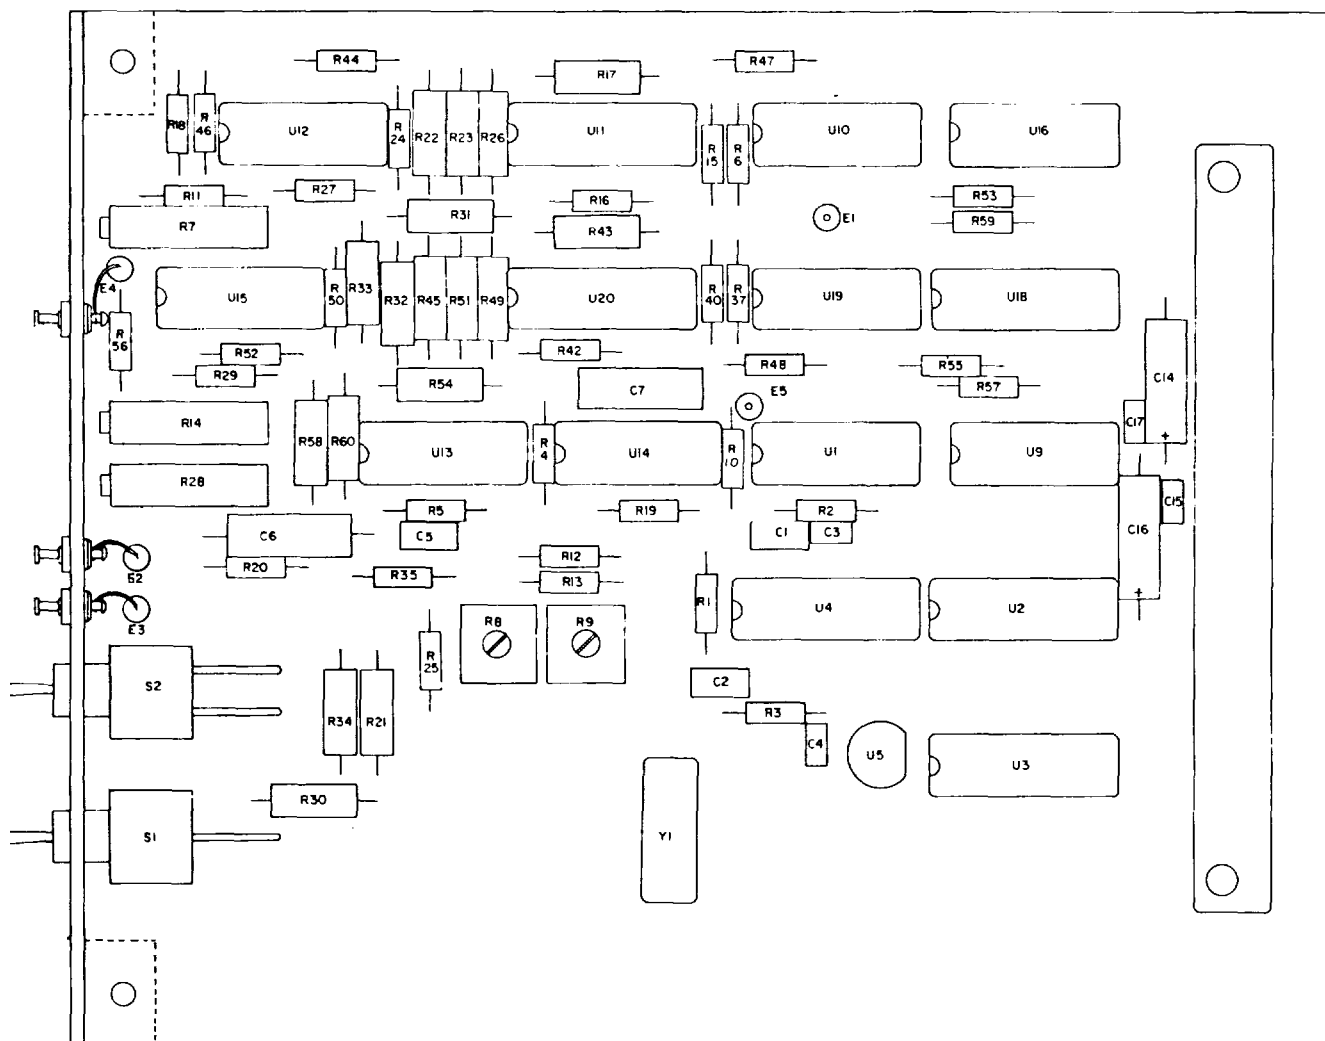

Figure 5-6. Test Generator Circuit Card Assembly, 1A3A5 Parts Location Diagram
f. Test Generator Circuit Card Assembly (1A3A5) Disassembly. This circuit card assembly should be removed only when servicing or component replacement is required. To remove this circuit card assembly, grasp both edges of the card and pull up. Further disassembly should be limited to removal of parts for repair or replacement. Refer to figure 5-6 for location of component to be replaced.